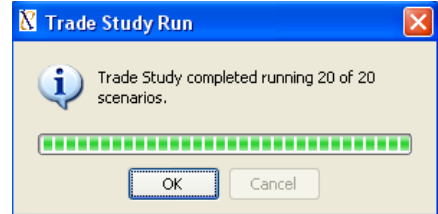

Figure 8.3 Trade Study Completion
- c. Figure 8.3 shows the message when the trade study is complete. Click OK.